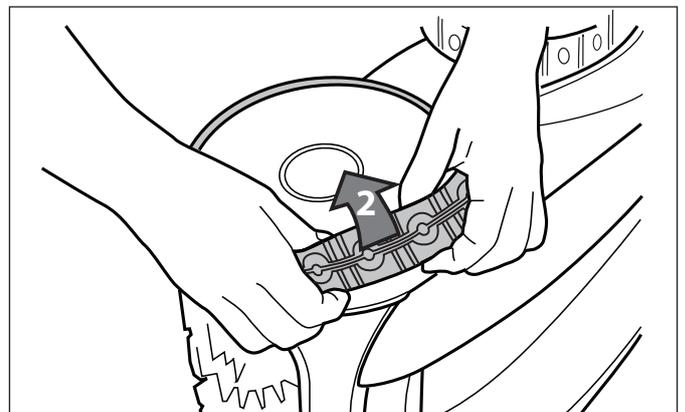

Figure 36. Remove the Old Tyre
2. Remove the old tyre (Figure 36).